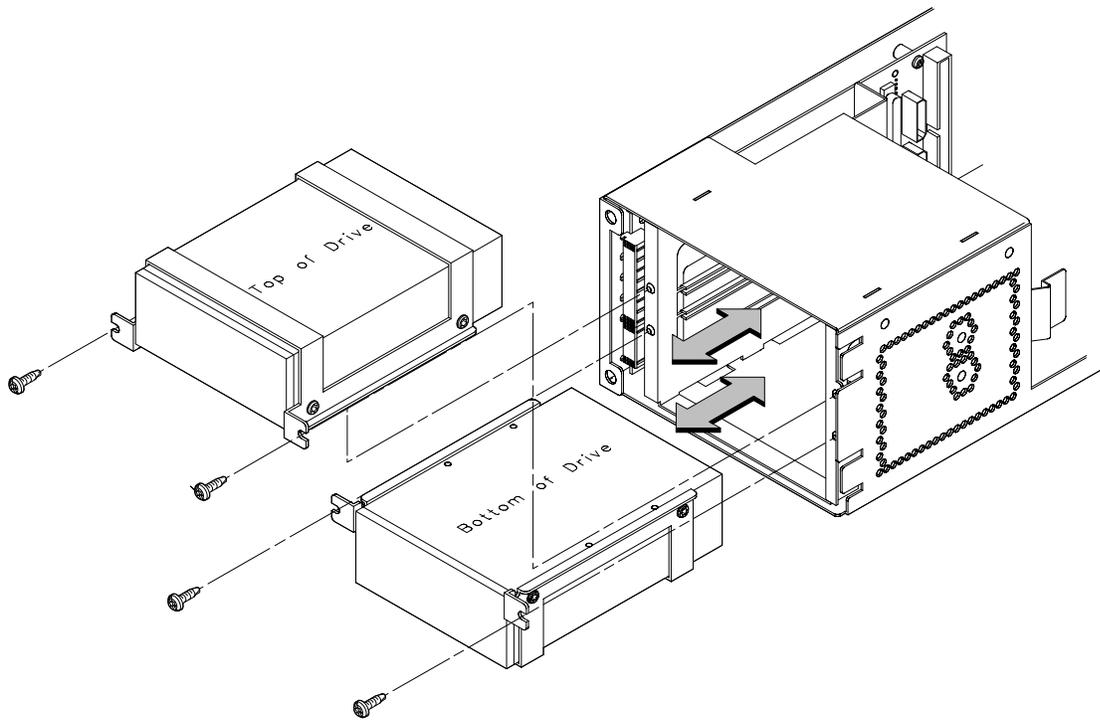

Figure A-18. Placing Hard Drives in Storage Drawer
6. With the disk mounting bracket between the guides on each side of the Storage Assembly, slide the disk into the Storage Assembly, securing it to the drawer with two side screws. See Figure A-18. Do not over-tighten the side screws.
The drives should be placed in the drive bays with the bottom of each drive toward the middle, as shown in Figure A-18. Refer to Figure B-16 for drive orientation in the bracket.